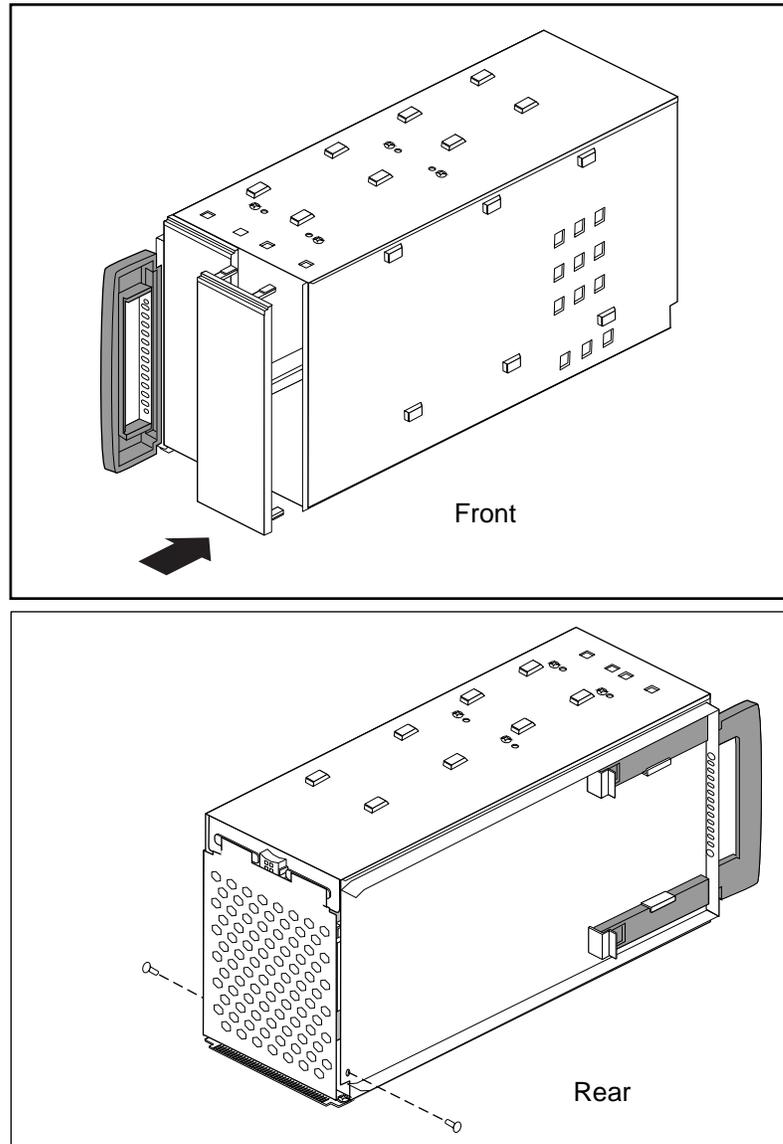

Figure 7-10 Replacing the Front Blanking Plate and Rear Access Plate
5. Replace the blanking and access plates on the peripheral carrier. See Figure 7-10.